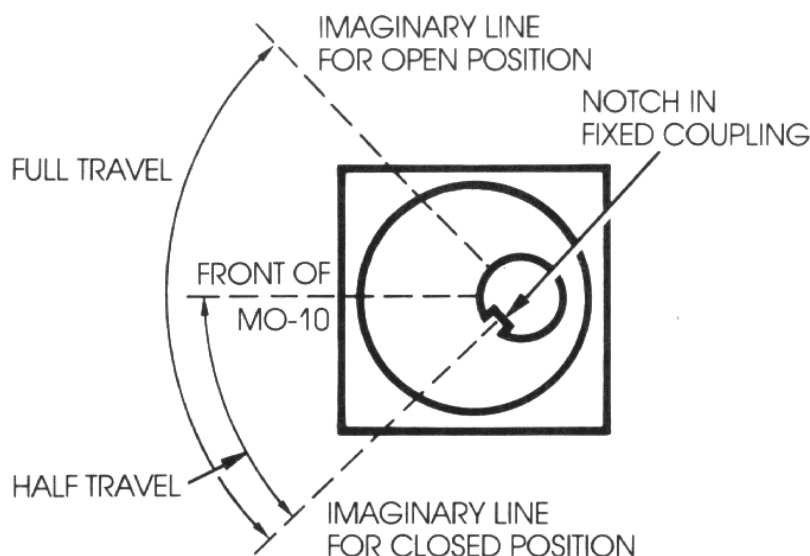

Fig. 1. Adjusting OPEN and CLOSED positions.
- b. Mid point of this "travel" should correspond to an imaginary line from the center of the motor operator out to the front. See dotted line on drawing, Fig. 1.
- c. Half "travel" in either direction will determine the open and closed positions for the fixed coupling. See the other two dotted lines on the drawing, Fig. 1.